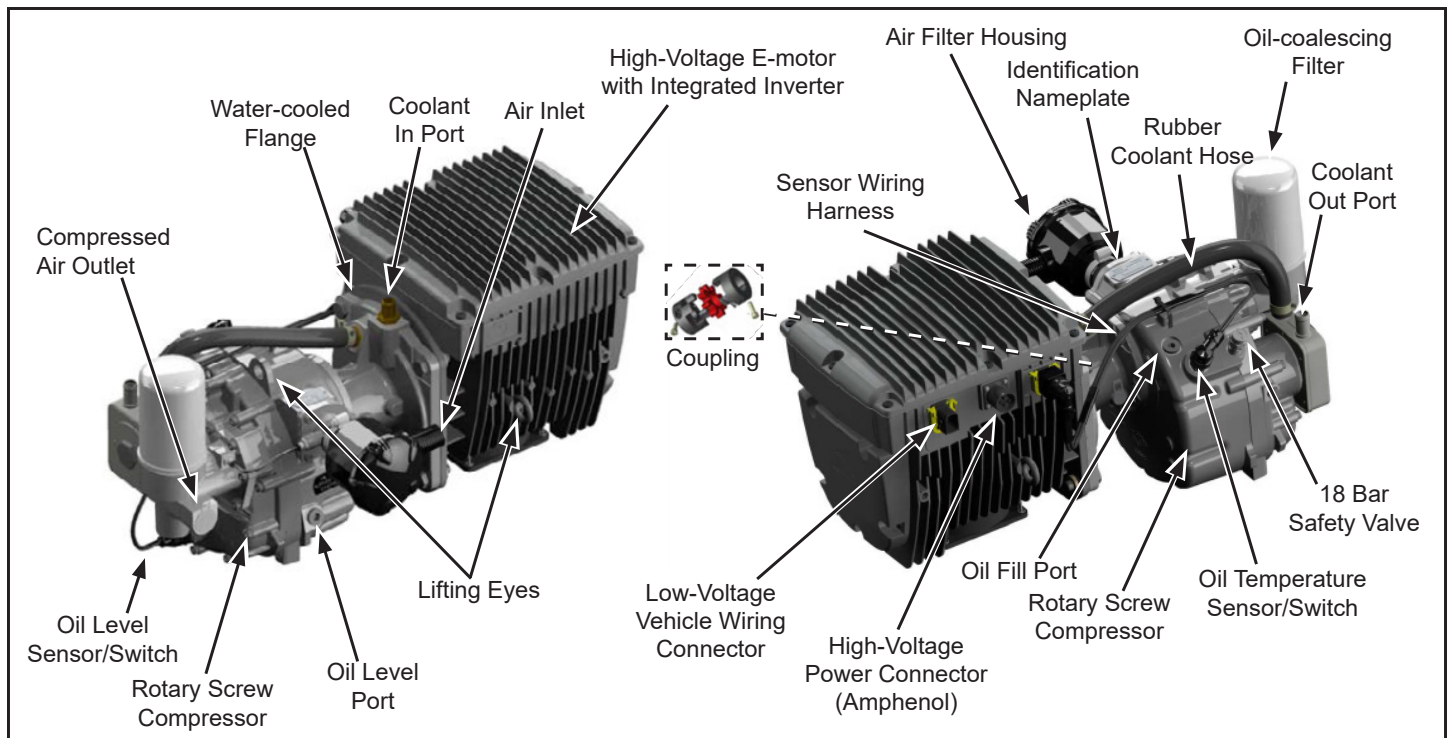

Figure 1 – Electric Screw Module 1 (ESM1) Components
The Bendix® Electric Screw Module 1 (ESM1) is an electric air compressor that generates and supplies compressed air for a commercial vehicle air brake system. The major components that constitute the ESM1 assembly are the high-voltage electric motor (E-motor) (with an integrated inverter and CAN interface) and the oil-injected rotary screw compressor. Using electrical energy from the batteries of the Electric Vehicle (EV), the electric motor drives the compressor using a flange coupling connection between the two (2) sub-components to produce compressed air. See *Figure 1*.